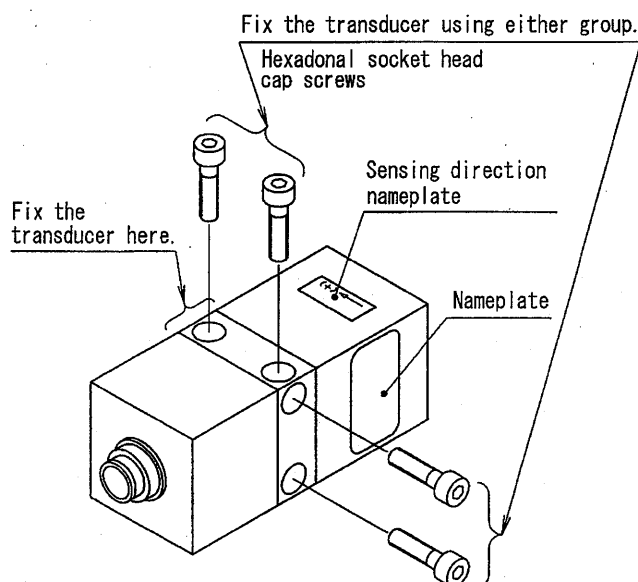

Fig.2 Installation
6.1 As shown on Fig.2, sensing direction of the transducer is specified by the sensing direction mark on the acceleration transducer.